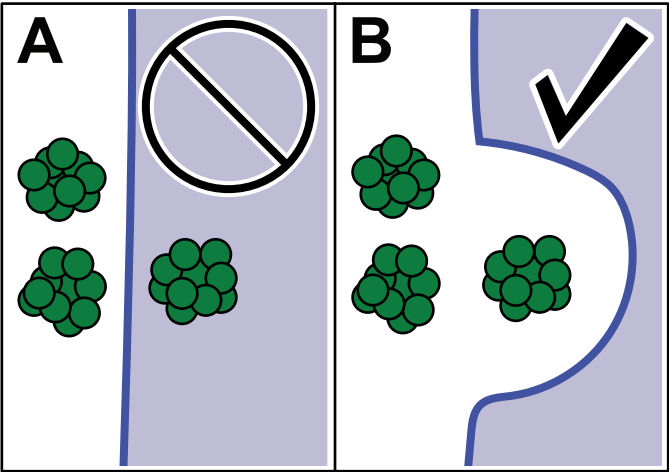

Figure 29
- The **AOA** boundary should not be mapped under trees or other obstacles as this could inhibit GNSS communication with the machine (Figure 29).